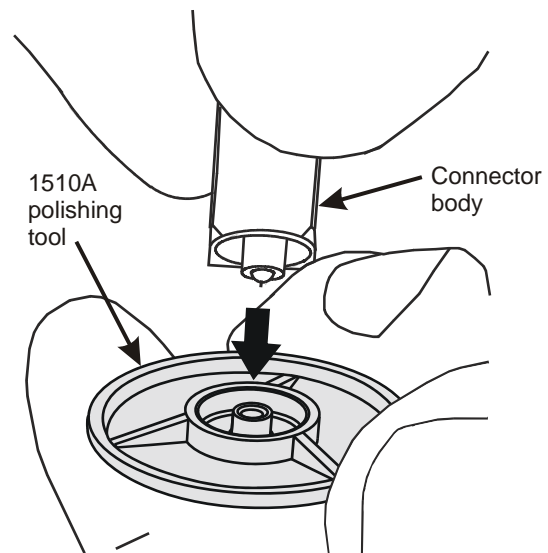

Figure 34. Prepare Polishing Tool
4. **Insert Connector into Polishing Tool**—Insert the connector tip into the 1510A polishing tool (Figure 34).